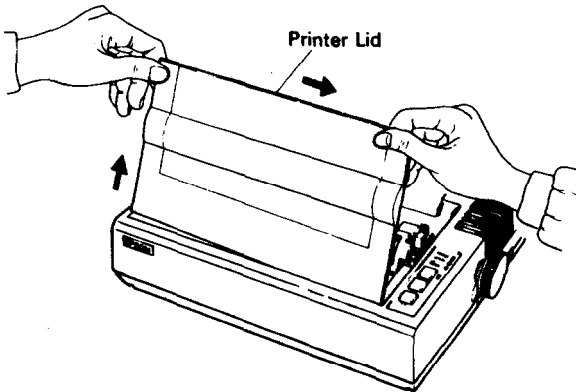

Fig. 6 Removal of Printer Lid
2. Push the printer lid toward the right and pull up its left side. (See Fig. 6)